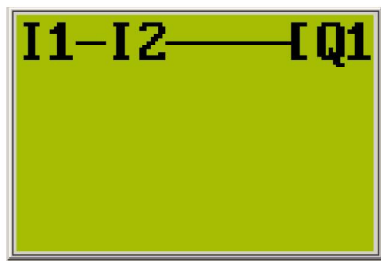
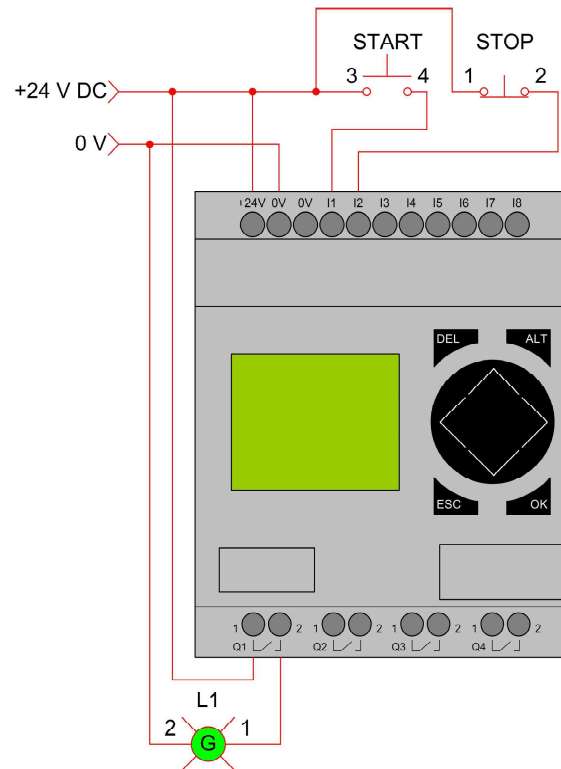
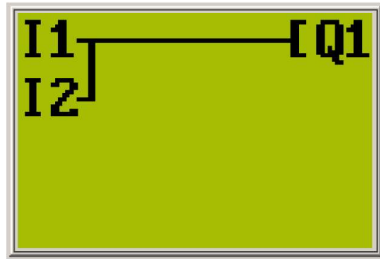

Figure 1-9. PLC ladder program.
Figure 1-10. Circuit connection diagram.
Figure 1-12. Question 5 PLC ladder program.
- ☐ 6. Enter the program shown in Figure 1-9.
- ☐ 9. Connect the PLC inputs and outputs according to the Figure 1-10 connection diagram. I1 is the START push button input, and I2 is the STOP push button input. The green pilot light is connected to output Q1.
5. If you keep the connections shown in Figure 1-10, but change the program shown in Figure 1-9 for the following one (Figure 1-12):